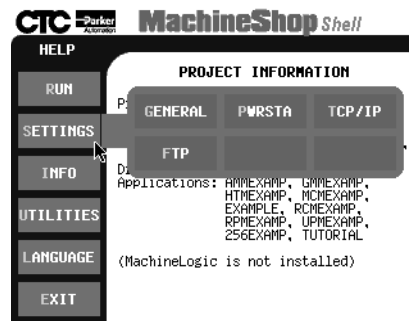

Figure 4-2 Settings Submenu
1. On the MachineShop Shell Main Menu, press the Settings button. See *Figure 4-2*.